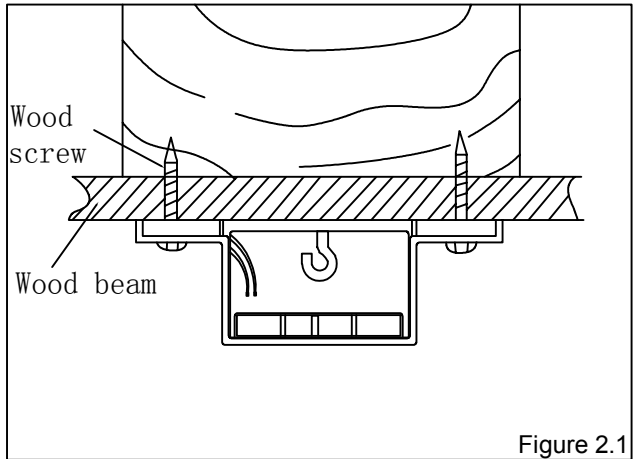

Figure 2.1
- For Wooden Ceiling: Drilling a pilot hole in your ceiling with the power drills first, then secure the bracket with wood screws. (Figure 2.1)